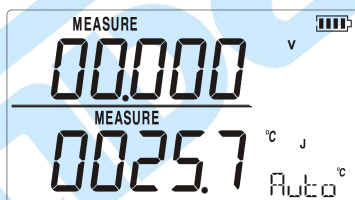

Figure 5.1-2
3. Press TC for the TC display. If desired, continue pressing this key to select the desired thermocouple type as shown in Figure 5.1-2.